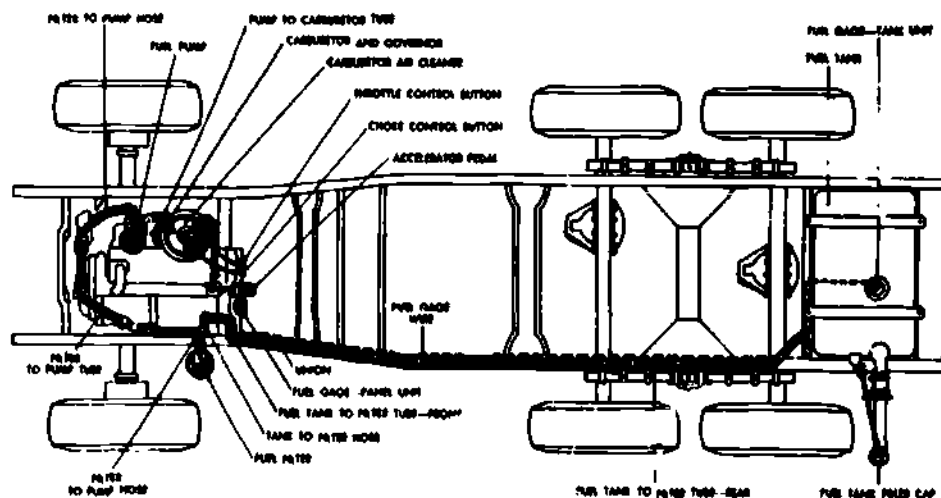

Fig 1-2. Components of a fuel system,
b. Components. Although the location of components may vary according to the type of vehicle, each fuel system will contain approximately the same components as shown in figure 1-2.